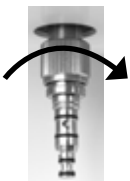

FIG. 1
4. If using service adapters, insert adapter into 4-hole connector & tighten nut (Fig. 1).